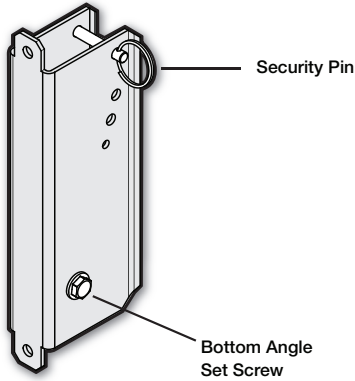

Figure 15. Security Pin and Bottom Angle Set Screw
2. Attach speaker to Wall Bracket Assembly by lowering the Speaker Bracket and bottom Angle Set Screw onto the Wall Bracket Assembly mounting hooks (see figure 15, ①) and push speaker towards the wall until the Security Pin locks into the Security Pin Hook (②).